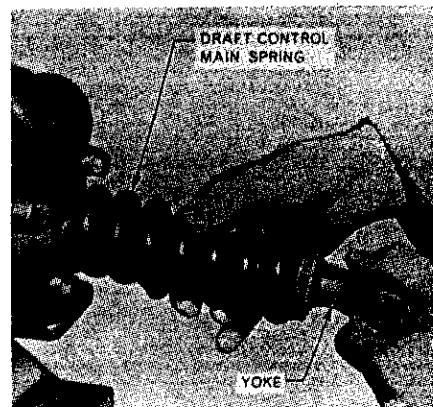

Fig. 378—Adjusting main draft control spring on model 2000 hydraulic system.
344. MAIN DRAFT CONTROL SPRING. On models 3000 and 4000, the main draft control spring assembly (Fig. 377) is designed for draft control of mounted implements with the top link under either tension or compression. Note: If draft control from top link tension is not desired on model 3000 or 4000, refer to Fig. 379 and install washer (W). On model 2000, draft control is obtained with top link under compression only; refer to Fig. 378.